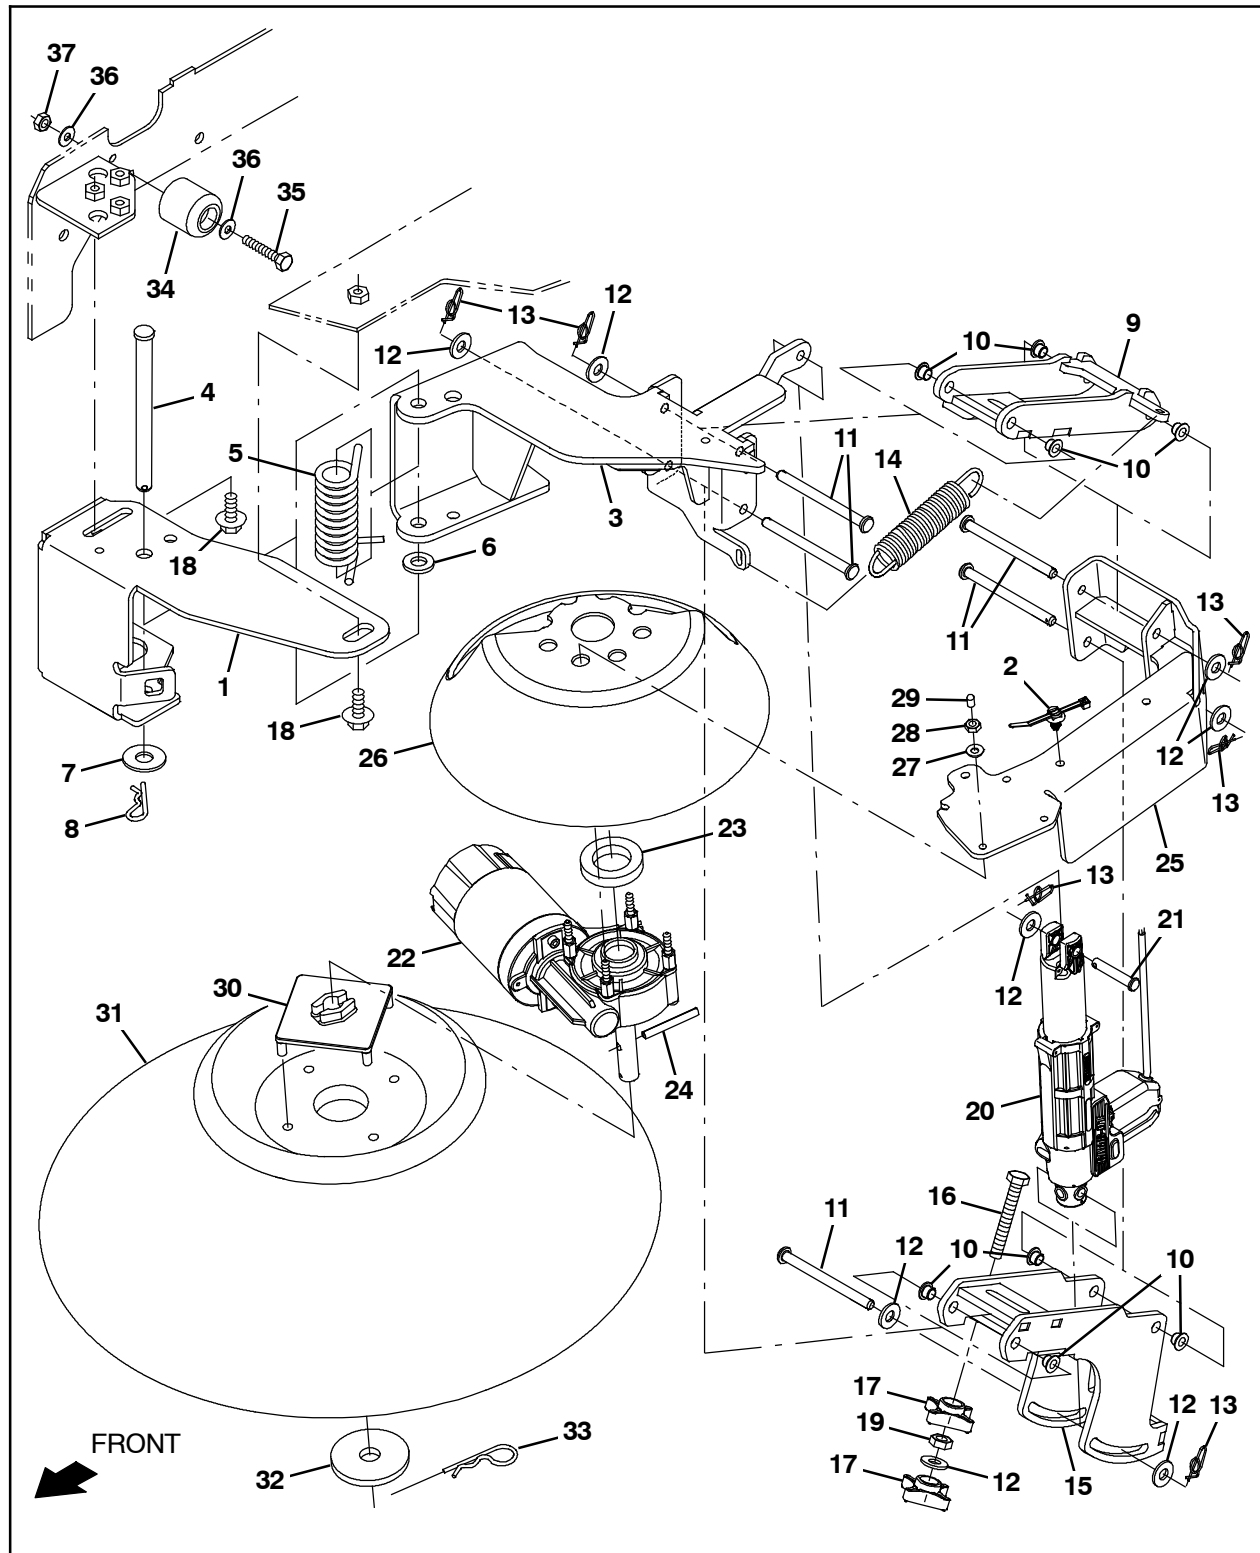
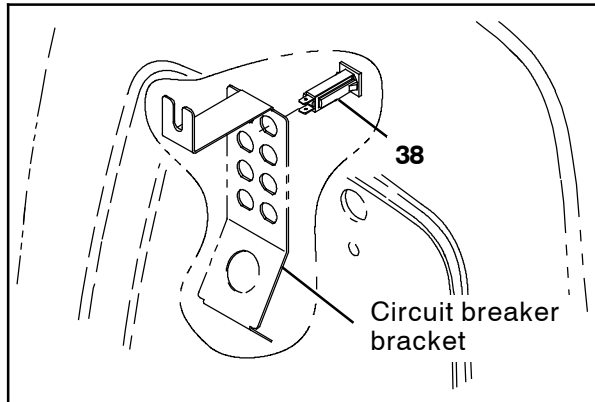
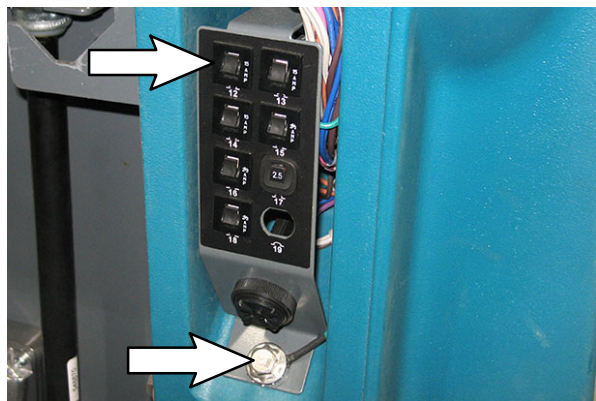
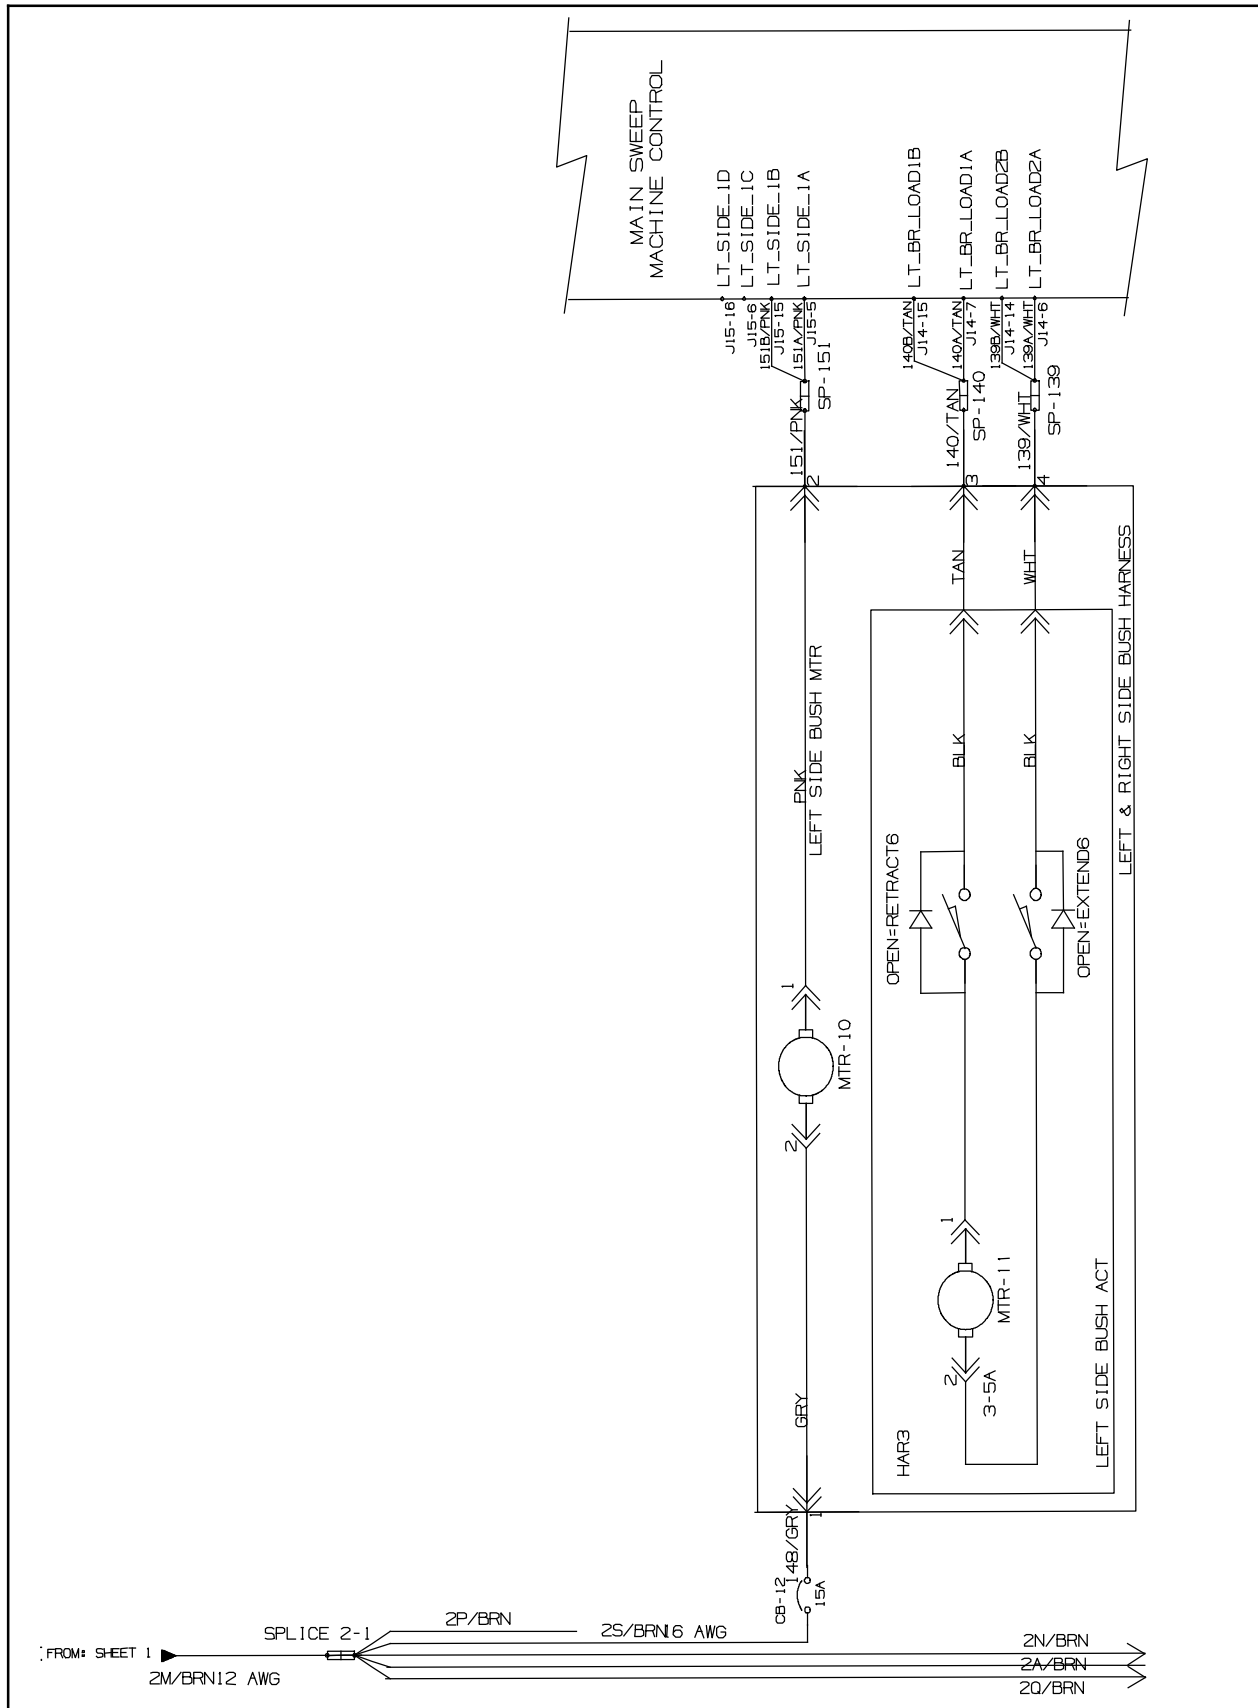

FIG. 1
FIG. 5
FIG. 6
FIG. 7
NOTE: If necessary, the brush drive motor (22) and side brush guard (26) can be removed from the left side brush assembly to make installation easier. Set all removed hardware and components aside if removing before installation. (Fig. 1)
1. Use one M6 hex screw (35), two flat washers (36), and one M6 hex nut (37) to install the rubber bumper (34) onto the frame of the machine. (Fig. 1)
2. Compress the torsion spring (5) and insert a screw driver through the left brush channel bracket (1) and left brush pivot bracket (3) to secure. (Fig. 1/Fig. 2)
3. Use three SEMS M8 hex screws (18) to install the left side brush assembly onto the frame of the machine. (Fig. 1)
4. Reinstall the brush drive motor (22), side brush guard (26), and reconnect the side sweep harness (39) to the brush drive motor if these items were removed before installation. (Fig. 1/Fig. 4/Fig. 7)
5. Connect the side sweep harness (39) to the main wire harness. (Fig. 1/Fig. 4/Fig. 7)
6. Ensure the side sweep harness (39) is securely connected to the actuator (20) cable and brush drive motor (22) cable. (Fig. 1/Fig. 4/Fig. 7)
7. Install the brush (31) onto the left side brush assembly. (Fig. 1)
10. Remove/loosen hardware securing the circuit breaker bracket onto the machine enough to access wire harness connections located behind the bracket. (Fig. 5/Fig. 6)
11. Insert a 15- Amp circuit breaker (38) into circuit breaker location CB12 in the circuit breaker bracket. (Fig. 5/Fig. 6)
12. Connect the main wire harness to the 15- Amp circuit breaker (38) installed in the previous step. (Fig. 5/Fig. 6/Fig. 7)